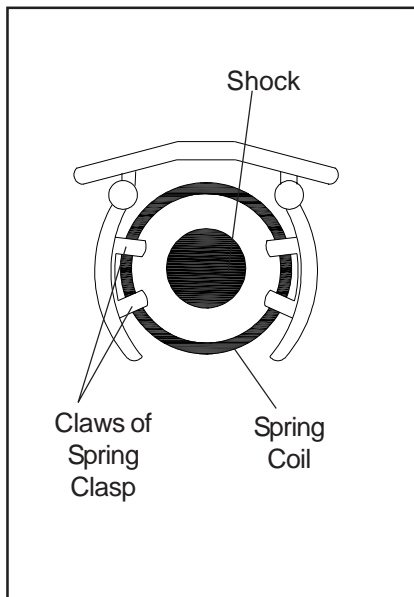

Figure 7
3. Ensure that the strut assembly is set up vertically, and the spring is clasped centrally and evenly (*refer to Fig. 7*).